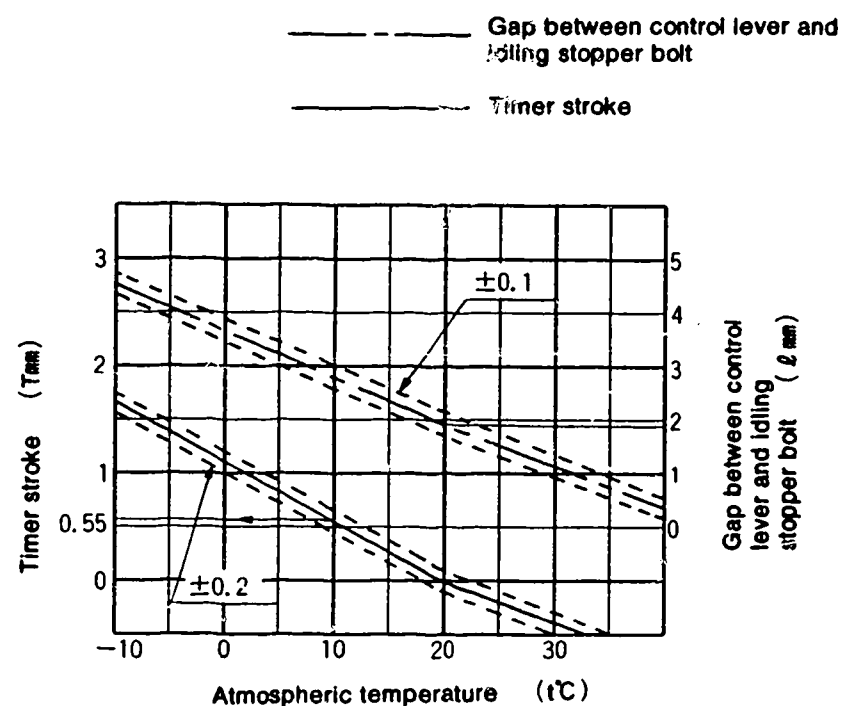

Fig. 2
1. Calculate the timer stroke from Fig.2 according to the atmospheric temperature at the time of adjustment.
1. Calculate the block gauge dimension $\ell \pm 0.05\text{mm}$ from Fig. 2 according to the atmospheric temperature at the time of adjustment.
Formula for calculating Fig. 2